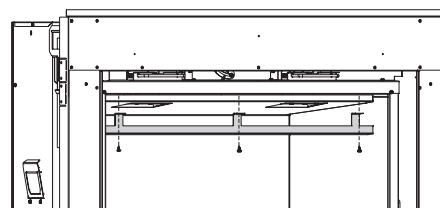

Figure 79
3. Remove the top liner bracket and top liner (**Figures 79 and 80**).